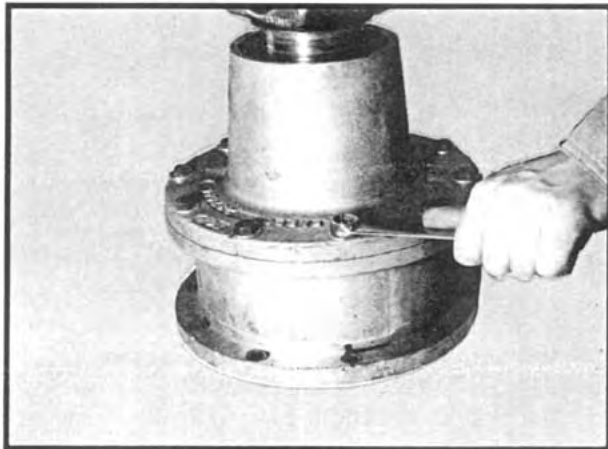

Fig 34
- Remove the (10) cap screws and washers fastening the rear carrier to the outer differential housing. See figure 34. Separate the carrier from the housing. Discard the gasket.